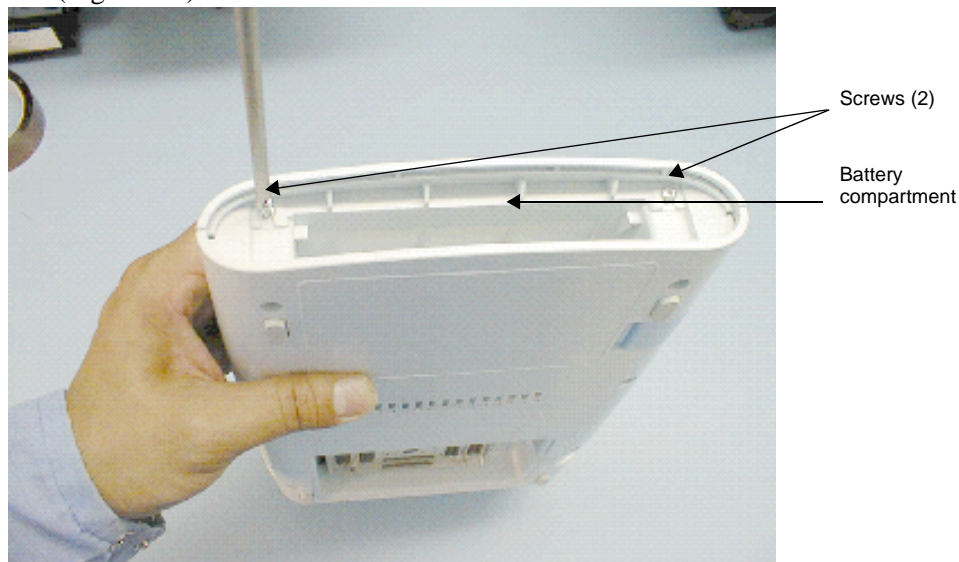

Figure 7.1 Removing the Control Panel
2. Use a #1 Phillips screwdriver to remove the two screws in the battery compartment, which releases the Control Panel from the top housing (Figure 7.1).